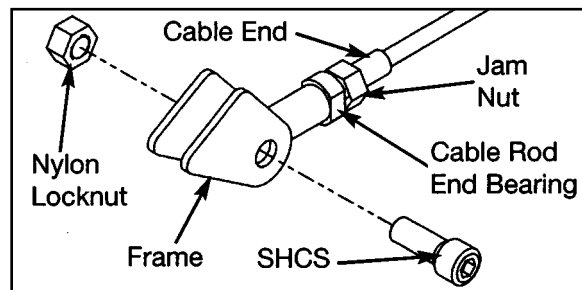

Figure 7
2. **Rod End Adjustment** - This type of adjustment contains a socket head cap screw (SHCS) securing a cable rod end bearing to the machine. Primary adjustment is by returning cable usually contains a roll pin cable adjustment. See Figures 7 and 8.